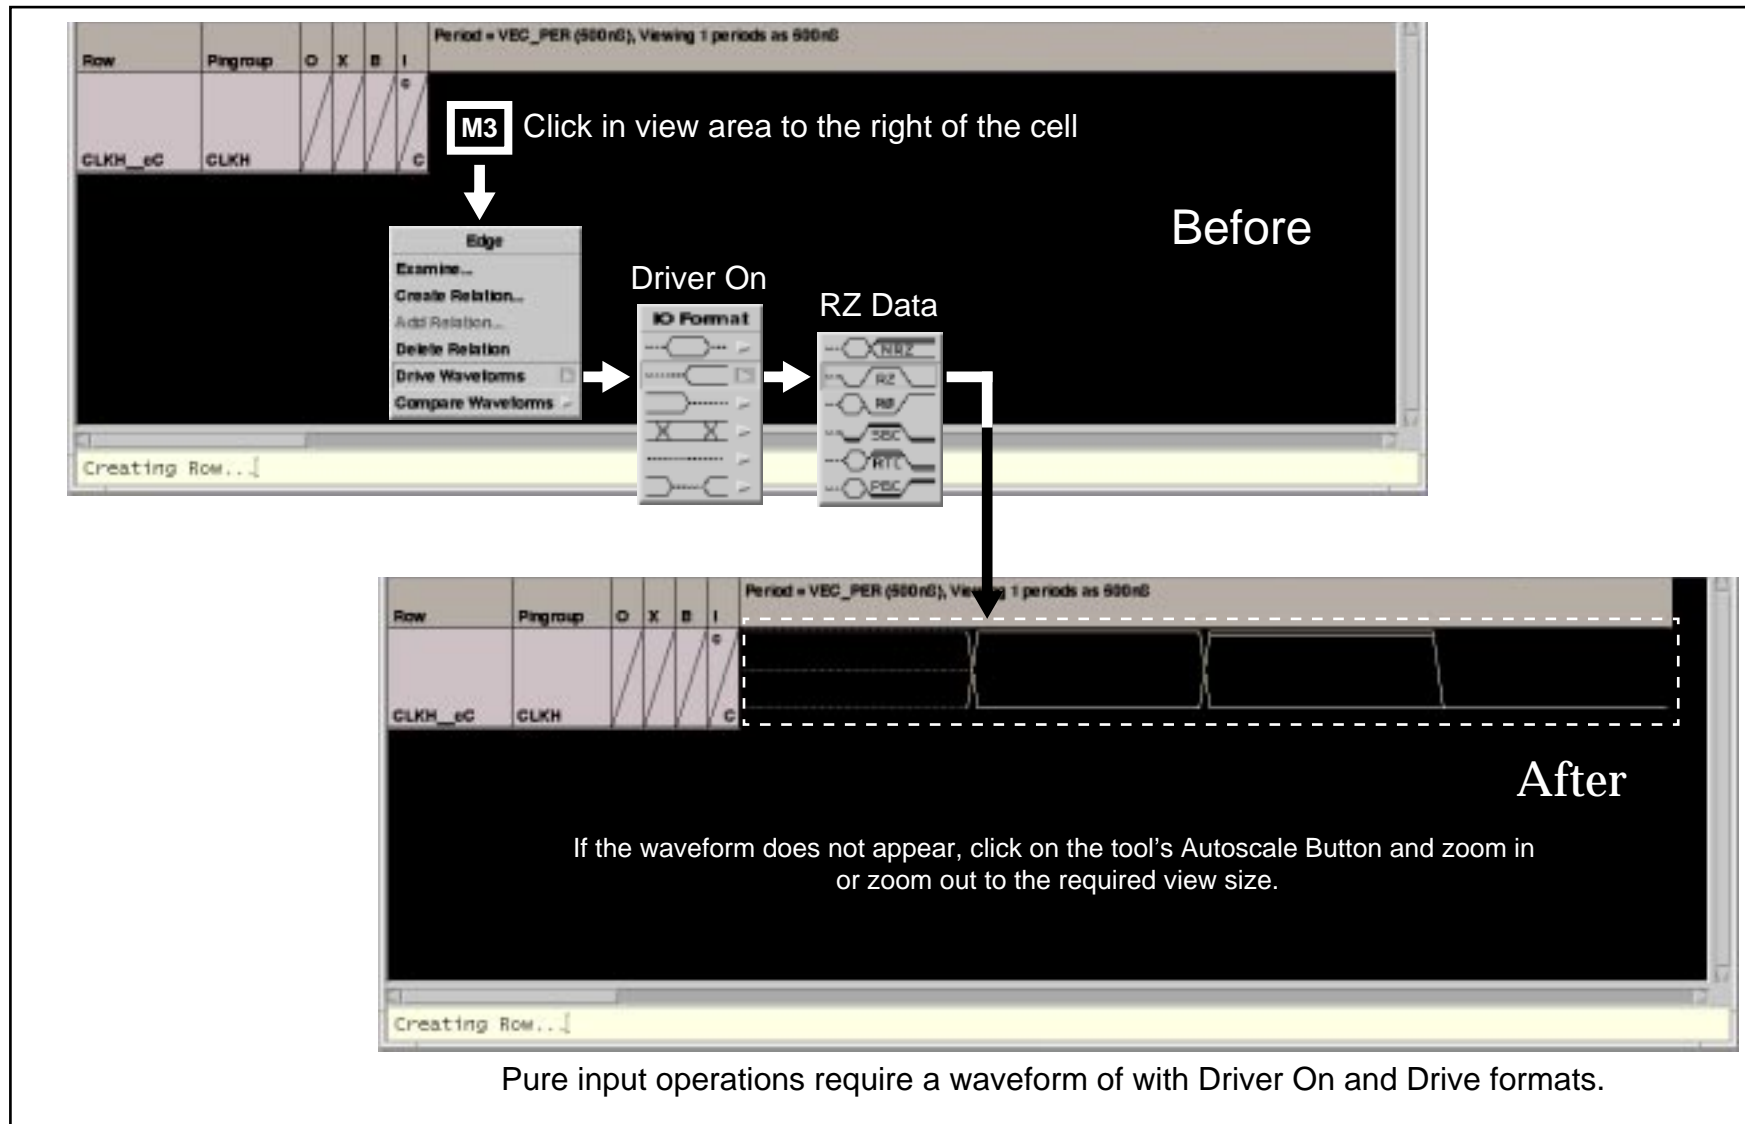

Figure 2.32: Adding Drive Information to a Cell
3. In the Edge popup menu, select Drive Waveforms, go to the cascade menu and select appropriate I/O format, then go to the cascade menu and select the required Drive Data format; refer to Figure 2.32.